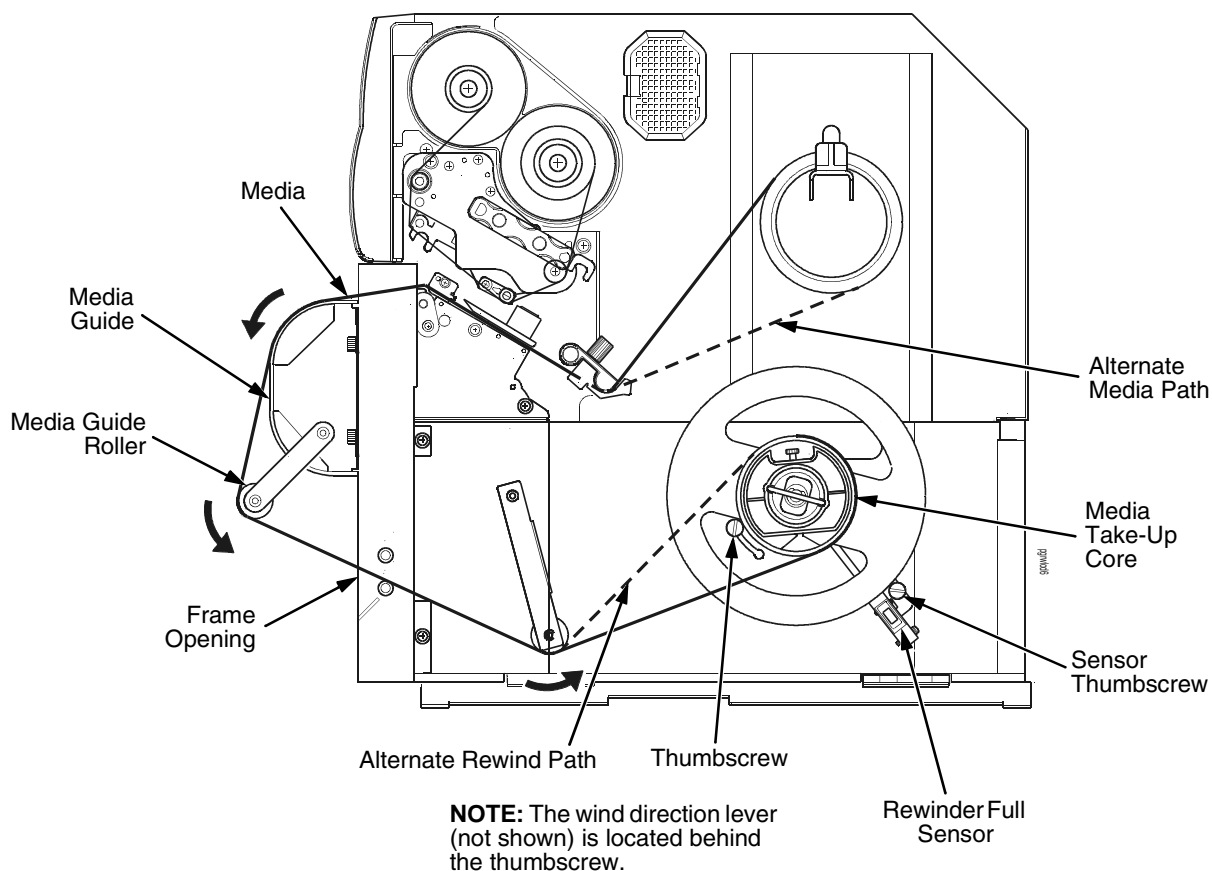

Figure 18. Media Rewind Path
2. Thread the media over the front of the media guide, around the media guide roller, and through the frame opening toward the media take-up core. See Figure 18.
3. Loosen the thumbscrew, pull it outward, position the wind direction lever in the desired location, and tighten the thumbscrew. See Figure 18.
2. Position the rewriter full sensor in the lower position and tighten the sensor thumbscrew. See Figure 18 on page 247.